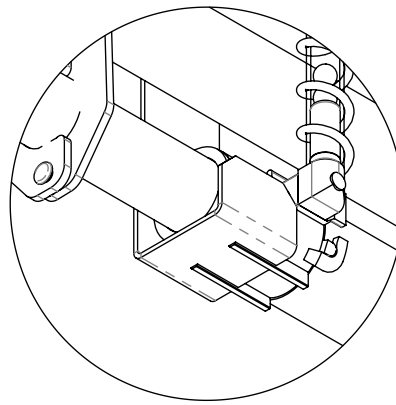

Figure 13: Bottom view
3. Slide anti-rotation bracket (P/N: 820743) over legs on bottom of slope regulator body, as shown in figure 13.